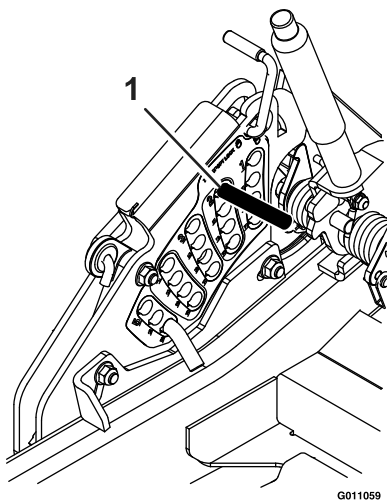

Figure 31
- D. Install a 1/2 x 6 inch (approx.) rod or bolt through the 2 inch height of cut hole (see Figure 31).